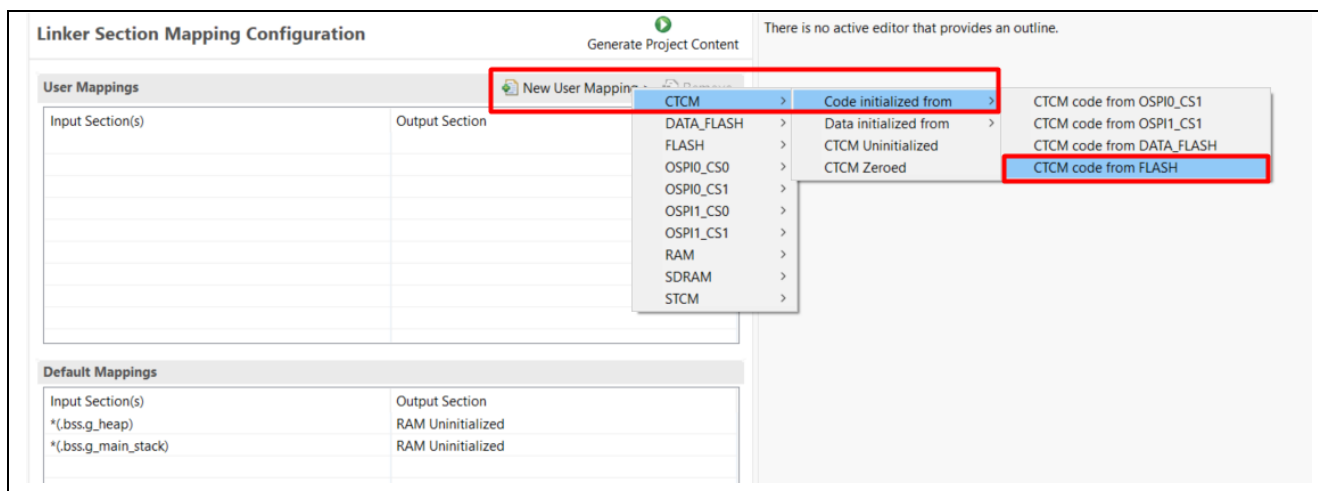
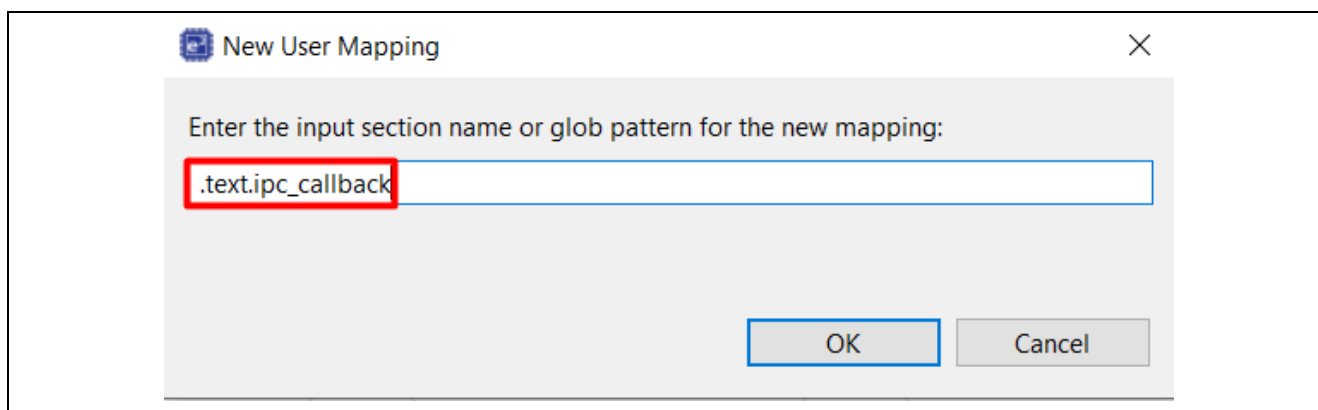

Figure 34. Example of Defining a New Section Mapping for CTCM
Figure 35. Example of Defining Input Section Name for Instruction Code on CPU1
4. Assign the function `ipc_callback()` to the designated CTCM section (Figure 34 and Figure 35).